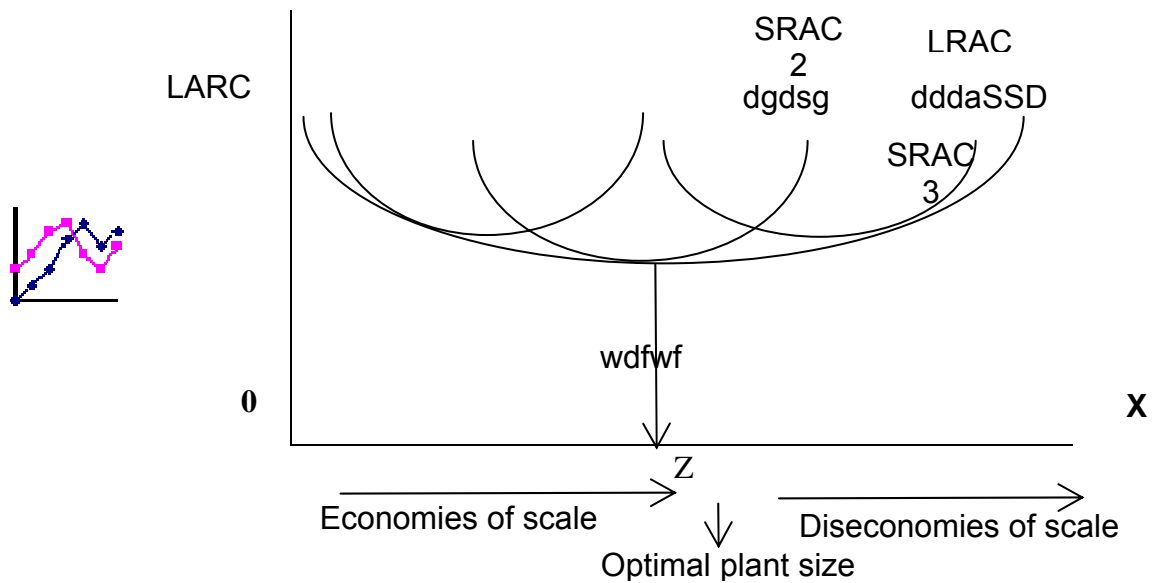

Figure 3.2: Long-run cost
a. **Long-run cost:** In the long-run all costs are variable costs. It shows the cost of production at various plant size or scale and operating conditions. It reflects the economies, diseconomies of scale, and optimal plant sizes which are a helpful guide for decisions-making process, as shown in Figure 3.2.